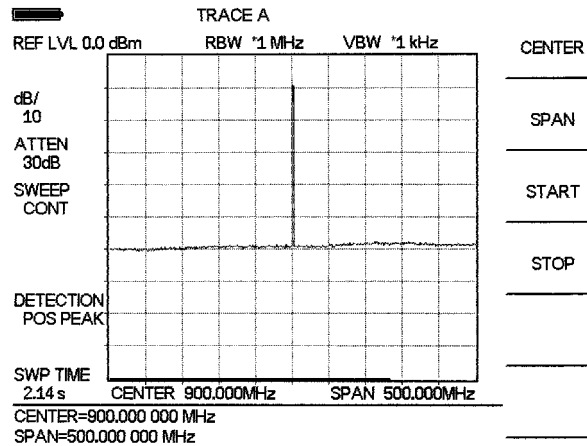

Figure 2-5. Signal at 900 MHz
- Step3.** Enter 900 on the keypad and select the **MHZ** soft key . Observe that the signal resembles that shown in Figure 2-5.